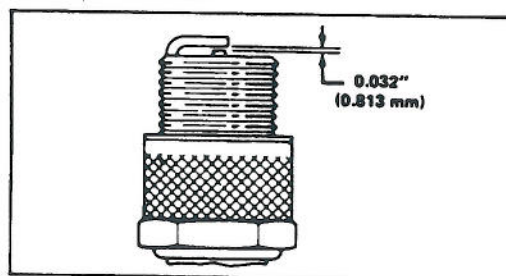

Figure 14
3. Set air gap at 0.032" (0.813 mm) (Fig. 14). Install correctly gapped spark plug and gasket seal. Tighten plug firmly to 15 ft-lb (20.4 N-m).